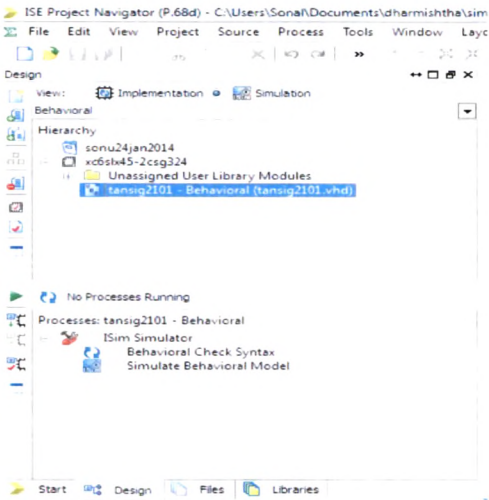

Figure A.5: Process Pane
- ✖ We should now see the simulation processes available for the design in the Processes pane. (Refer to Figure A.5)